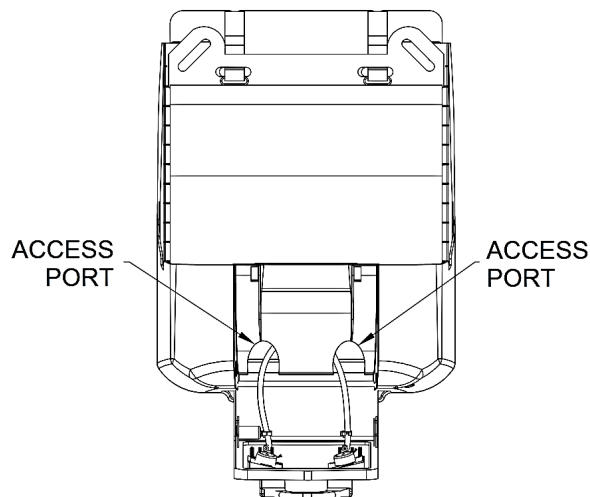

FIGURE 7
- A. With Lid Assembly removed and Tray Assembly in the open position, feed the first Nozzle Assembly (part of Fluid Cartridge Assembly) through the Access Port on the Housing Assembly (**Ref Figure 7**)